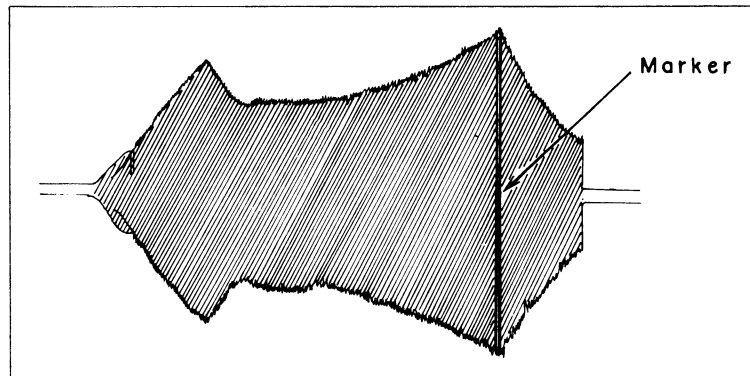

Fig. 5-18. Head, Q, Resonance waveform
4. Adjust C1 and C2 (resonance) for peak response at the marker. See Fig. 5-18.